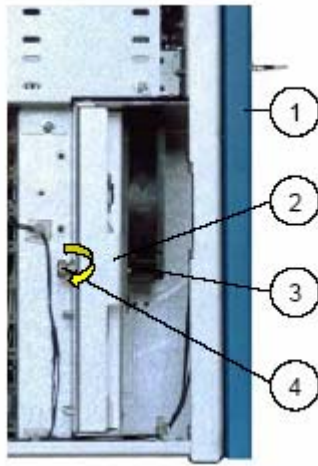
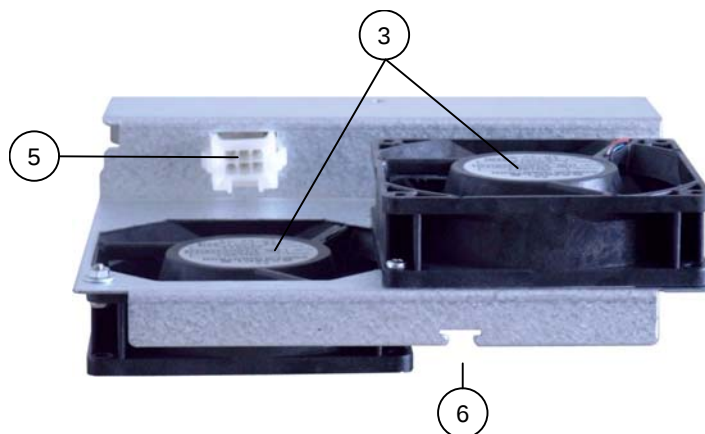
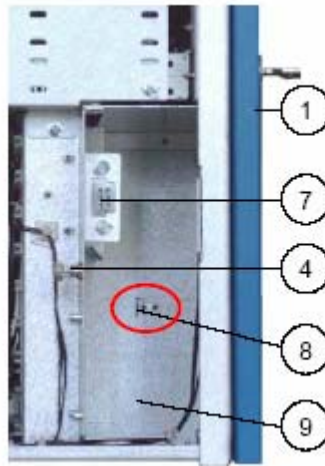

Figure 23: KISS-Platform with fan slide-in module
Figure 25: Bottom view of the fan slide-in module
Figure 26: Fan case of the KISS-Platform without fan slide-in module
2. Loosen the captive knurled screw (fig. 23, pos. 4). Use the handle (fig. 23, 24 pos. 2) of the fan slide-in module and pull it out from the fan case (fig. 25 pos. 9).
Legend for figures: 23, 24, 25 and 26
3. Replace the fan slide-in module with a new functional module. Push the fan slide-in module carefully into the fan case socket connector, by aligning the centering angle (fig. 26, pos. 8) to the centering slot (fig. 25, pos. 6).